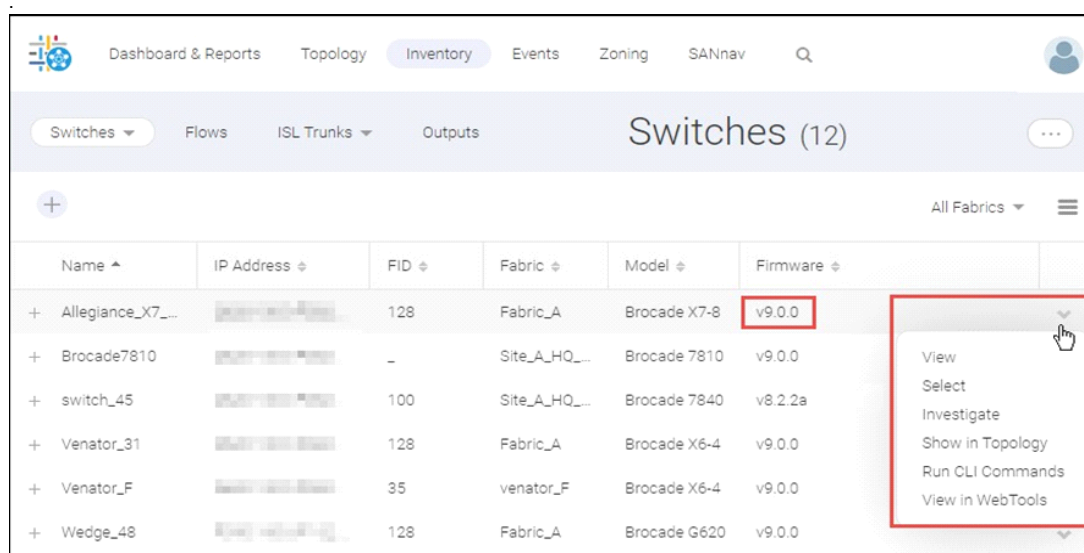

Figure 9-1 Starting WebTools from SANnav Management portal
- ▶ To start from SANnav Management Portal, locate the switch on the SANnav Inventory page, click the down arrow to the right of the switch, and select **View in WebTools** from the action menu (see Figure 9-1).